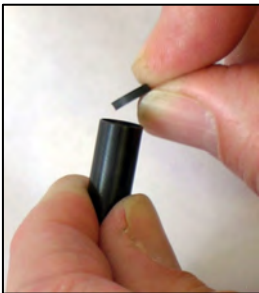

Figure 5
1. Take the new plunger and plunger seal from the kit. Install the seal into the end of the plunger making sure it is seated all of the way. **(Figure 5)**.